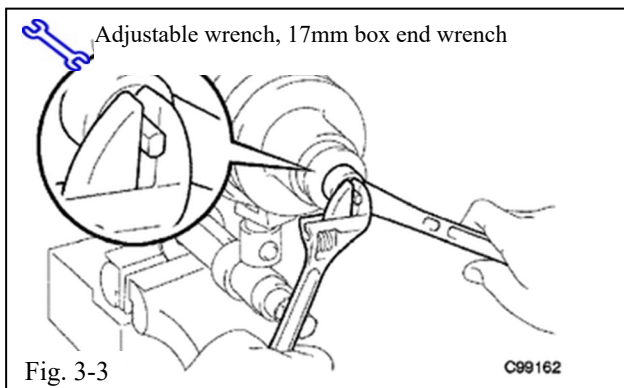

Fig. 3-3
- (d) Confirm that the front coil spring becomes free. While holding the shock absorber rod with an adjustable wrench, remove the front support to front shock absorber nut using a 17mm box end wrench. (Fig. 3-3)